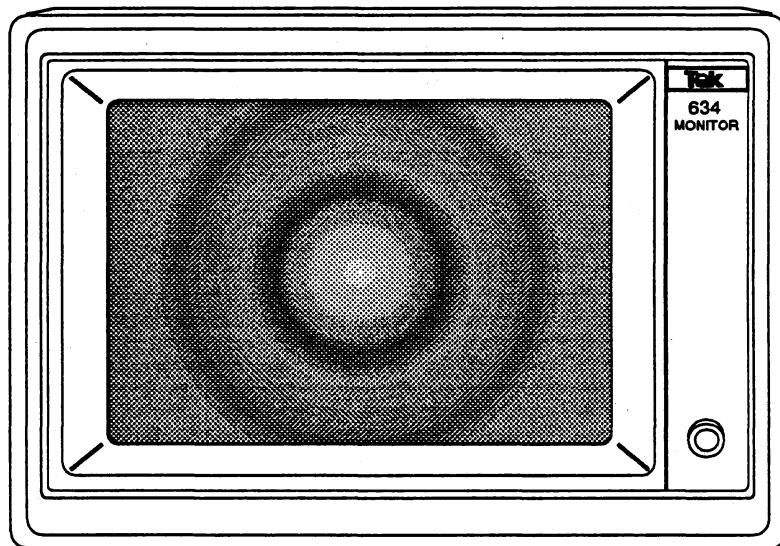

Figure 5-11: Setting the Maximum Read Gun Current
5. Adjust R189 (XALN) and R190 (YALN) while observing the write trace on the video monitor. Adjust the X and Y alignment to get the brightest possible "blot" on the video screen as shown in Figure 5-11. The "blot" should appear near the center of the video monitor, but adjust the alignments to maximize the intensity, not to center it. This corresponds to a maximum amount of read gun beam current passing through the first anode aperture. (The Read Gun Ramps, Cathode Regulator, Video Preamp, Control Board Video Processor, and the 68010 MPU system must all be operational in order to see this display).